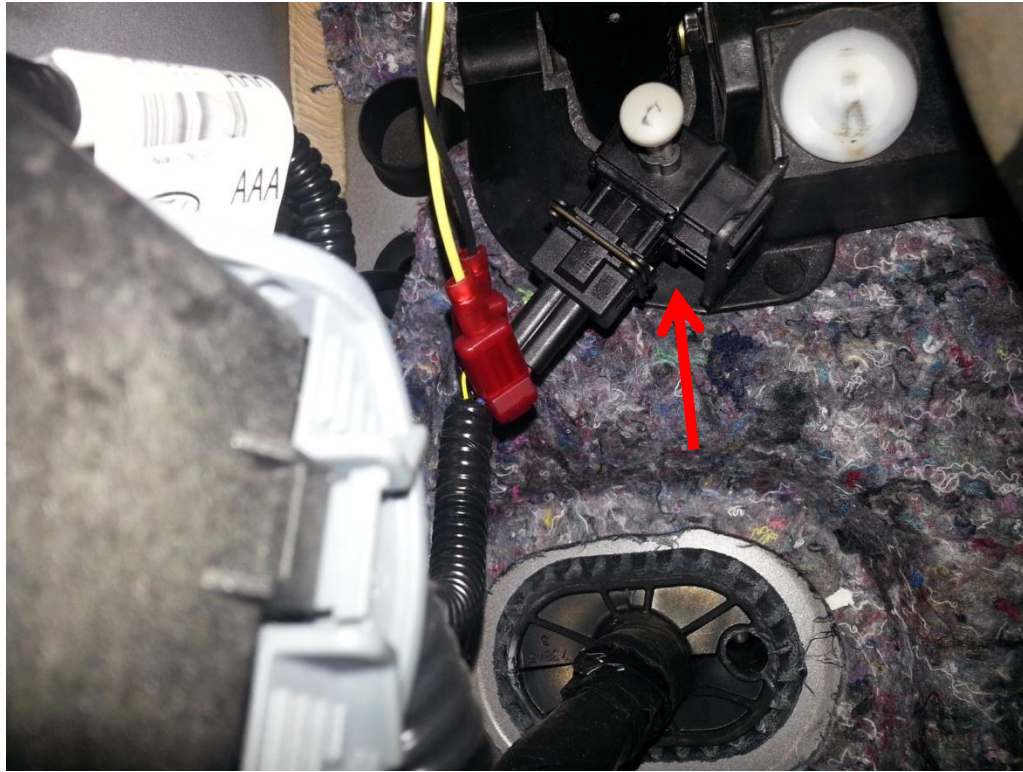

Figure 1 (Clutch Interlock Sensor)
1. Attach supplied wiretap to the **yellow/black** wire on the clutch safety interlock sensor (**Figure 1**).
3. Attach supplied wiretap to the **blue/orange** wire on the clutch safety interlock sensor (**Figure 1**).